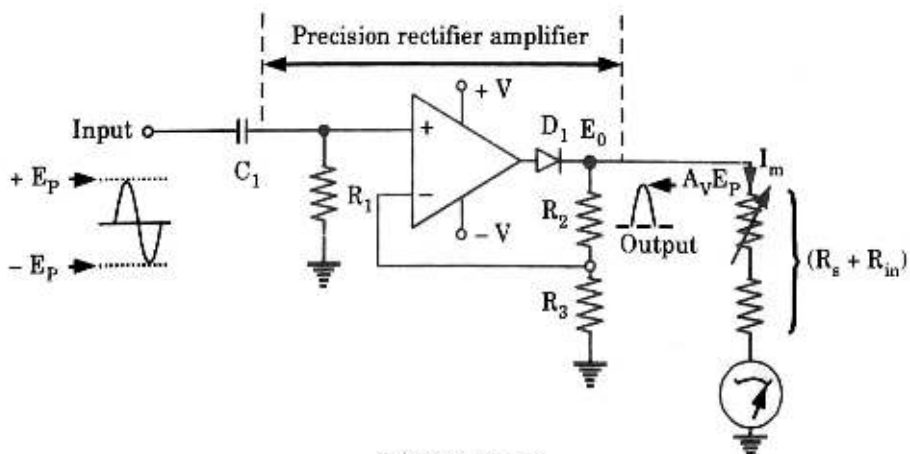

Fig. 2.6.1.
- From the circuit of Fig. 2.6.1,